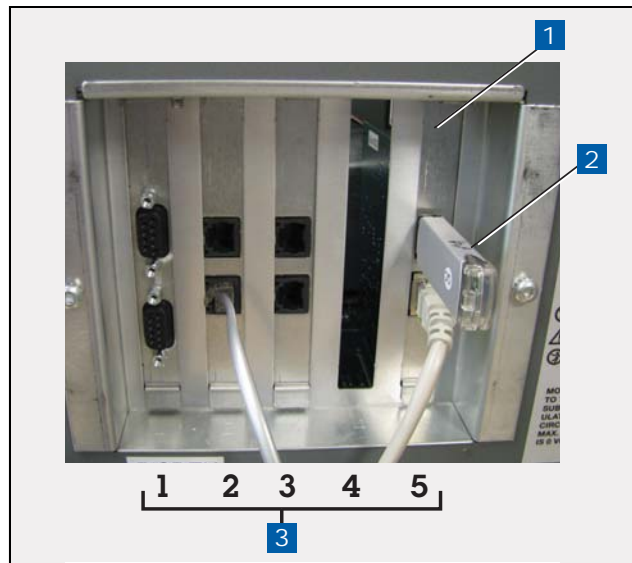

Figure 1. USB/Ethernet Board - V-R Thumbdrive Port
1. Insert the V-R Backup Thumbdrive (P/N 332970-004) in the external USB port on the USB/Ethernet card, P/N 332913-001 (see item 2 in Figure 1).
LEGEND FOR NUMBERED BOXES IN Figure 1
2. Remove Comm boards from Comm Module Bay slots 4 and 5 (see Figure 1) and set aside.